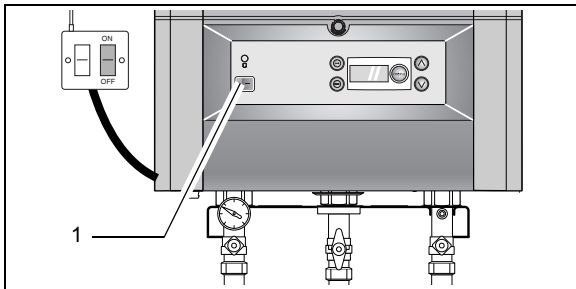

fig. 5 DBA – Mains switch
- Turn off the boiler by setting the mains switch to "0" (fig. 5, item 1).
- Push the mains power switch (fig. 5, item 1) to “0”.
- Turn off the boiler by setting the mains power to "0" (fig. 5, item 1).